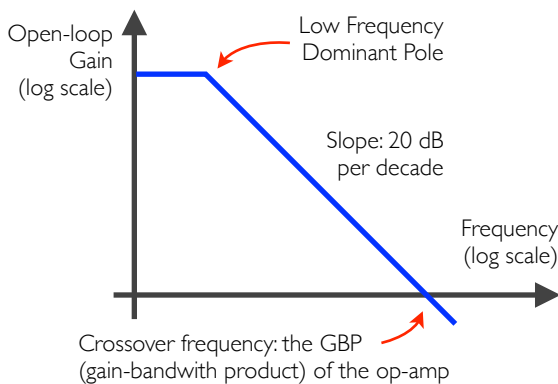

Figure 13: Frequency Response
3. Can you measure and reproduce the curve in figure 13? This is easiest with a variable-frequency signal generator and an oscilloscope. At what frequency is the "knee" of the plot? What happens at the crossover frequency? Compare the results to that which you get with an integrated circuit '741.